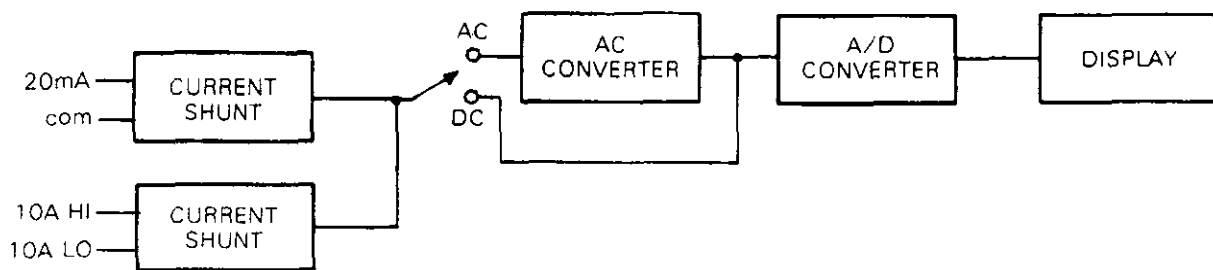

FIGURE 4-4
D. AC/DC Current measurements have two ranges; the 20mA range and the 10A range. These two ranges are 3-1/2 digit readings in order to keep the burden voltage under 250mV. The 20mA range is protected by diodes CR108, CR109 and Fuse F101. The current shunt for the 10A range is designed to minimize internal heating in the event of overload. Figure 4-4 is a simple block diagram showing AC/DC current measurements.